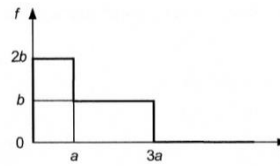

FIGURE 6.12
6.11 Use MATLAB to find the Laplace transform of the time functions in Figure 6.12.